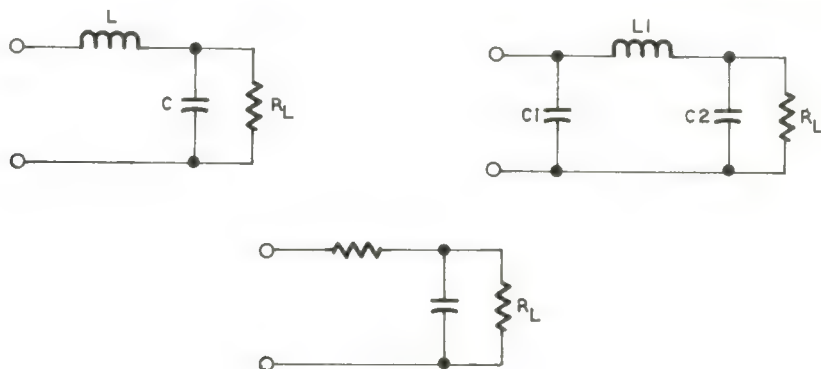

Figure R-17
The three types of rectifier filter are shown in Figure R-17. (A) is called an inductor-input filter; (B) is called a capacitor-input filter; and (C) is a resistor-input filter.